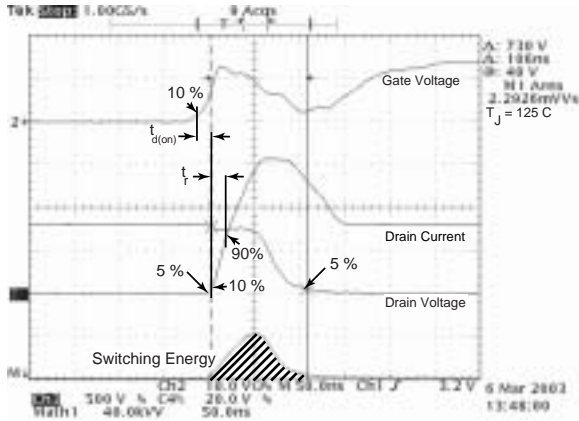

Figure 18, Turn-on Switching Waveforms and Definitions
- ① Repetitive Rating: Pulse width limited by maximum junction temperature
- ② Pulse Test: Pulse width < 380 μs, Duty Cycle < 2%
- ③ See MIL-STD-750 Method 3471
- ④ Starting Tj = +25°C, L = 7.11mH, RG = 25Ω, Peak IL = 30A
- ⑤ dv/dt numbers reflect the limitations of the test circuit rather than the device itself. IS ≤ -30A di/dt ≤ 700A/μs VR ≤ 1200 Tj ≤ 150°C
- ⑥ Eon includes diode reverse recovery. See figures 18, 20.